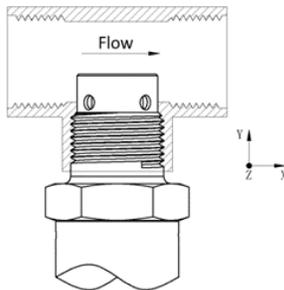

Figure 3. Installation Method (2)
- The conductivity cell is located at the bottom of the water stream and is less likely to accumulate air. However, it is worth noting that this type of installation should avoid the conductivity cell from reaching in too short and forming a dead zone. As shown in Figure 3.